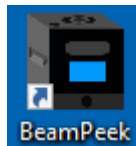

Figure 2: BeamPeek Shortcut Icon
- The BeamPeek shortcut icon (Figure 2) appears on the desktop.